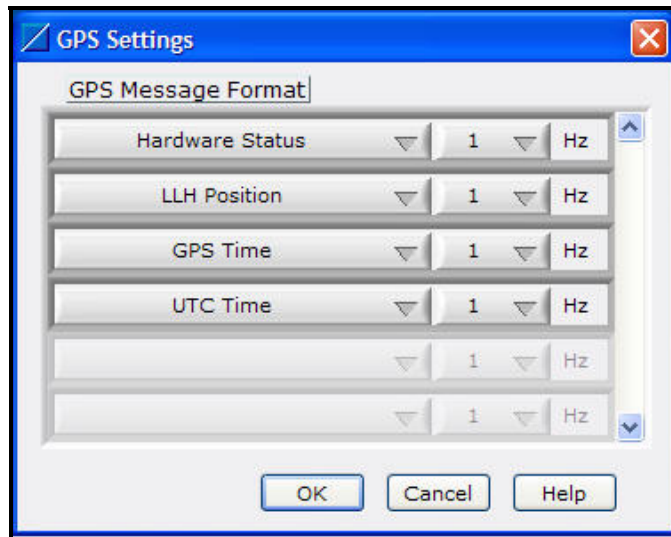

Figure 6. GPS Settings window
- Continue by selecting LLH Position, GPS Time and UTC Time as shown in Figure 6.